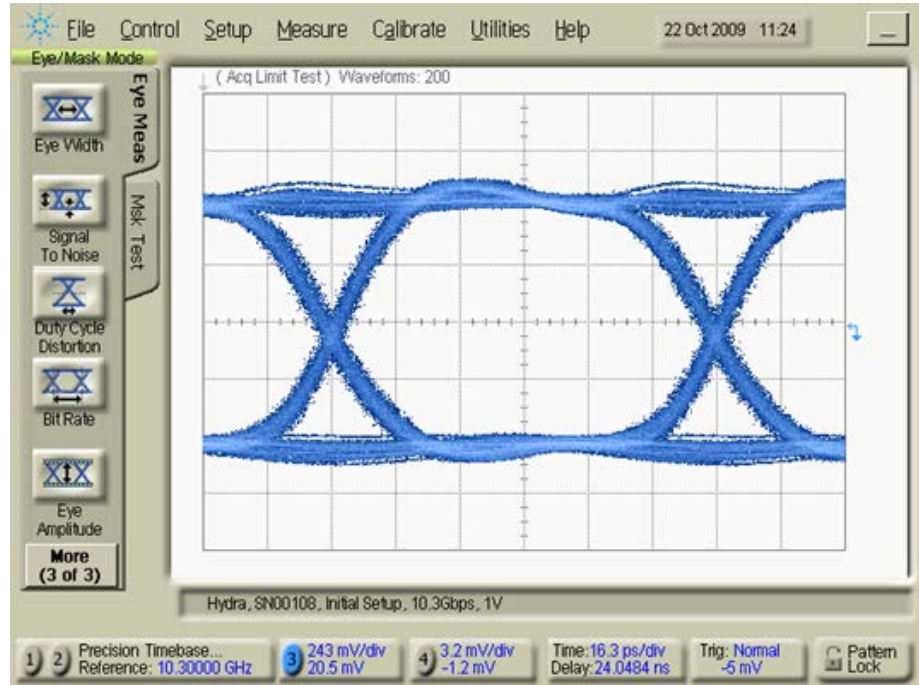

Figure 5. Installation setup waveform
- Verify that the waveform is similar to the one shown in Figure 5.